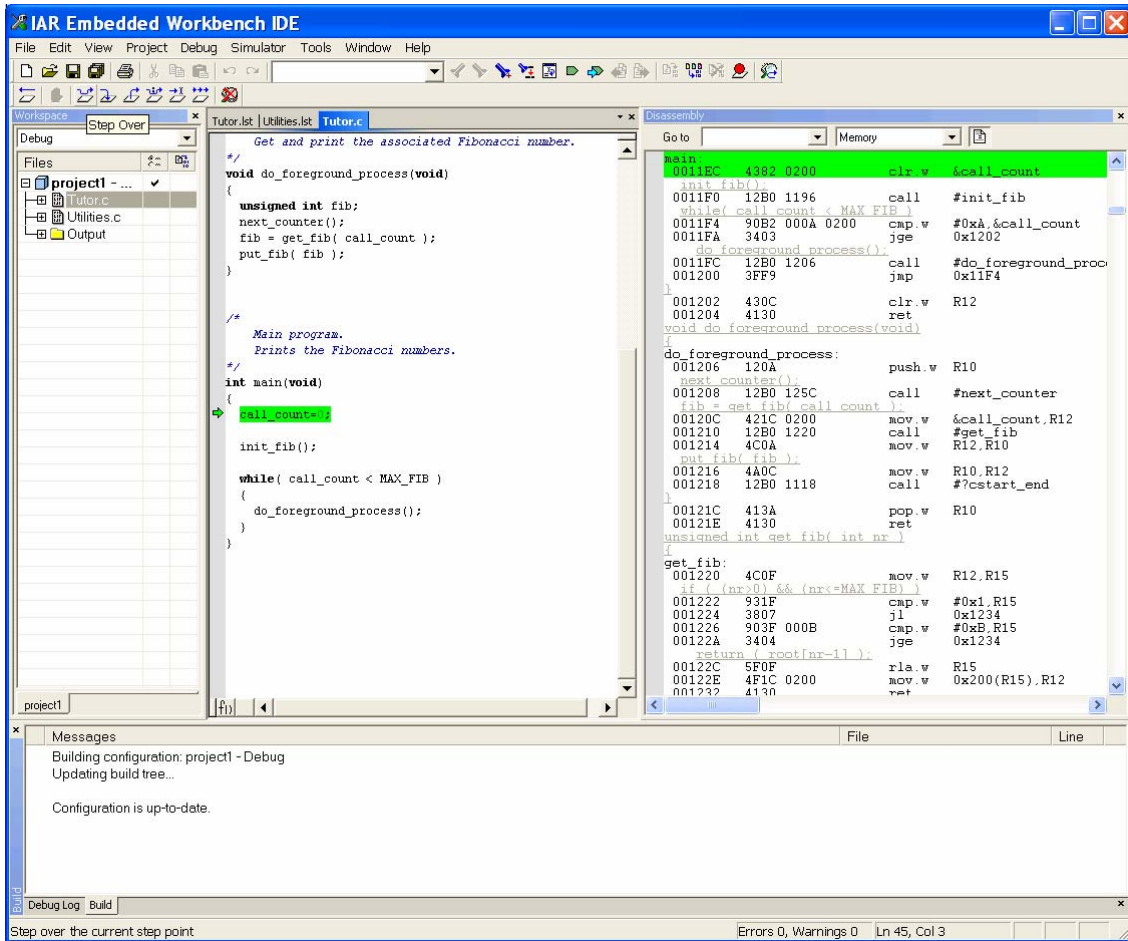

Figure 10. The C-SPY debugger main window.
Step 2. Choose *Project>Debug*. Alternatively, click the Debugger button in the toolbar. The IAR C-SPY Debugger starts with the project1.d43 application loaded. In addition to the windows already opened in the Embedded Workbench, a set of C-SPY-specific windows are now available (Figure 10).